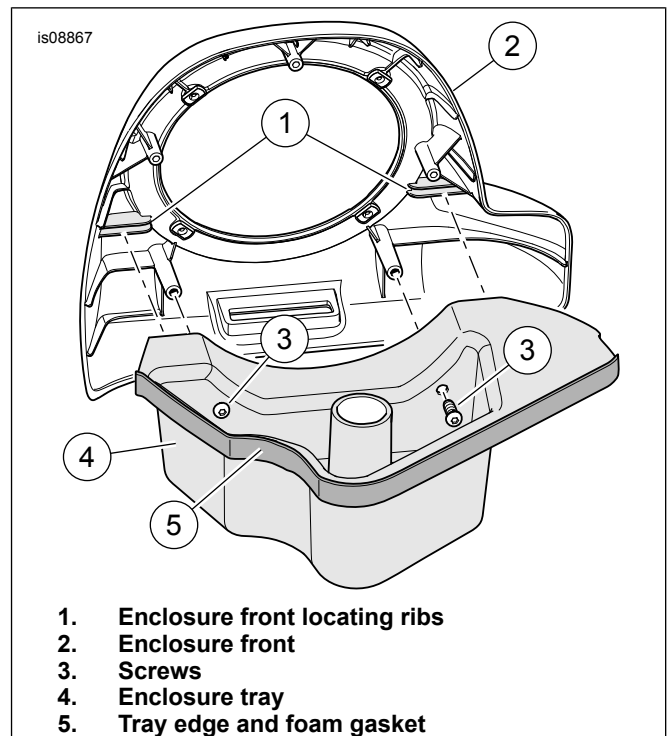

Figure 6. Enclosure Assembly
6. See Figure 6. Assemble the enclosure tray (4) to the front enclosure (2). Install two self-tapping screws (3). Remove the paper backing from one side of the double-sided foam gasket (5). Install the seal as shown. Trim and save excess foam gasket seal for later use.